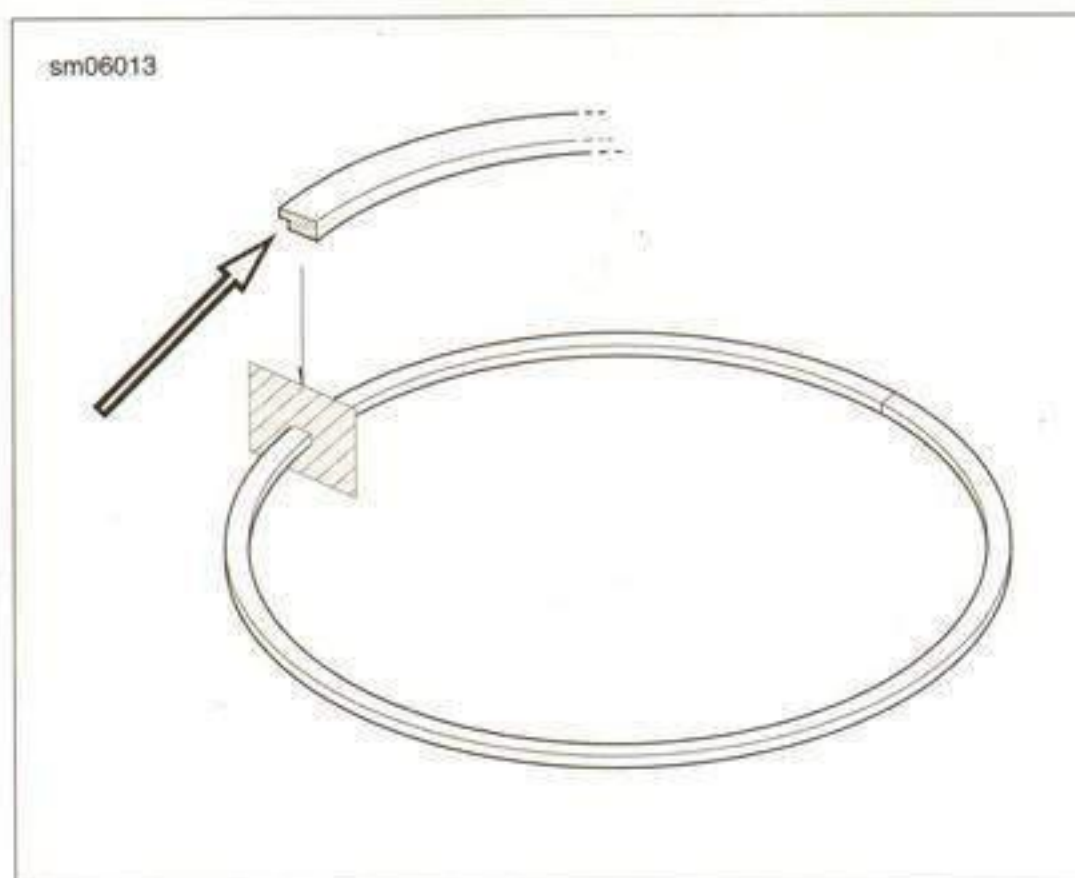

Figure 3-101. Second Compression Ring
- c. See Figure 3-101. Second compression ring has a tapered edge.